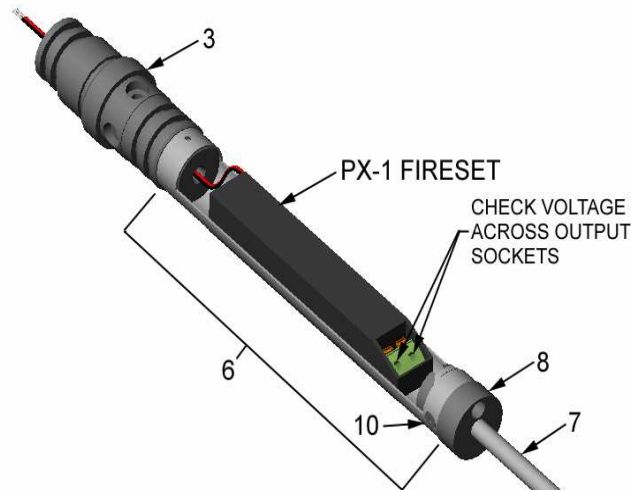

Figure 2: Checking Output Sockets of PX-1 for Voltage Prior to Arming
1.8 Check for voltage across the output sockets of the PX-1 using a digital blaster's meter set on DC+ Voltage Scale, see Figure 2. Meter should read 0 Volts.